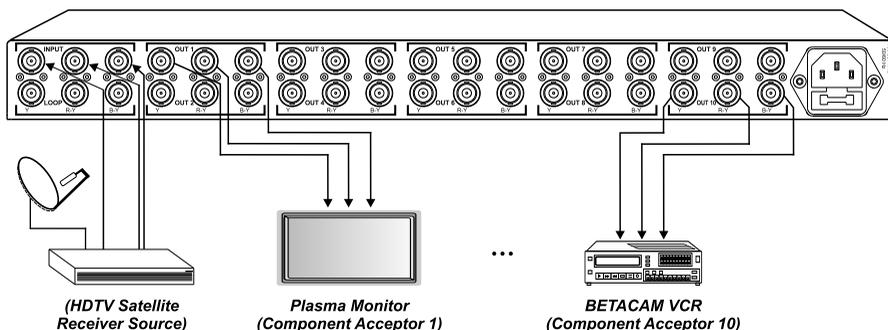

Figure 3: Connecting a VM-100CB Unit
4. Connect the power cord³ (not illustrated in Figure 3).